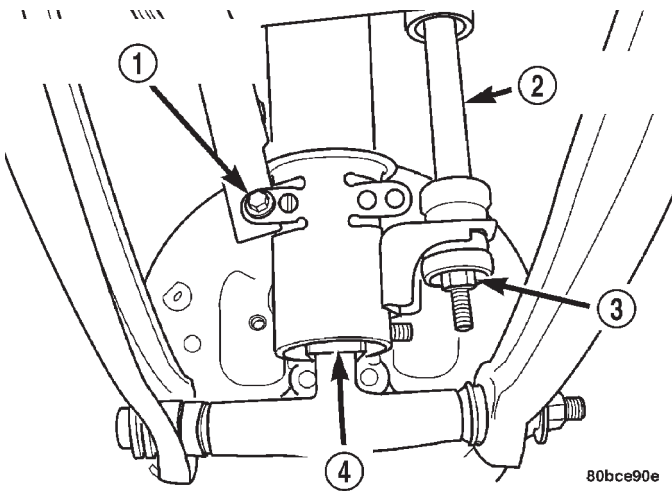

Fig. 16 Stabilizer Bar Link
- (1) Raise the vehicle. Refer to **HOISTING** in the **LUBRICATION AND MAINTENANCE** group for the proper lifting procedure.
- (2) Remove both rear wheel and tire assemblies from the vehicle.
- (3) Remove the nut from the end of each rear stabilizer bar link bolt (Fig. 16). Pull the bolt out through the top of the link and remove the link from each end of the stabilizer bar.